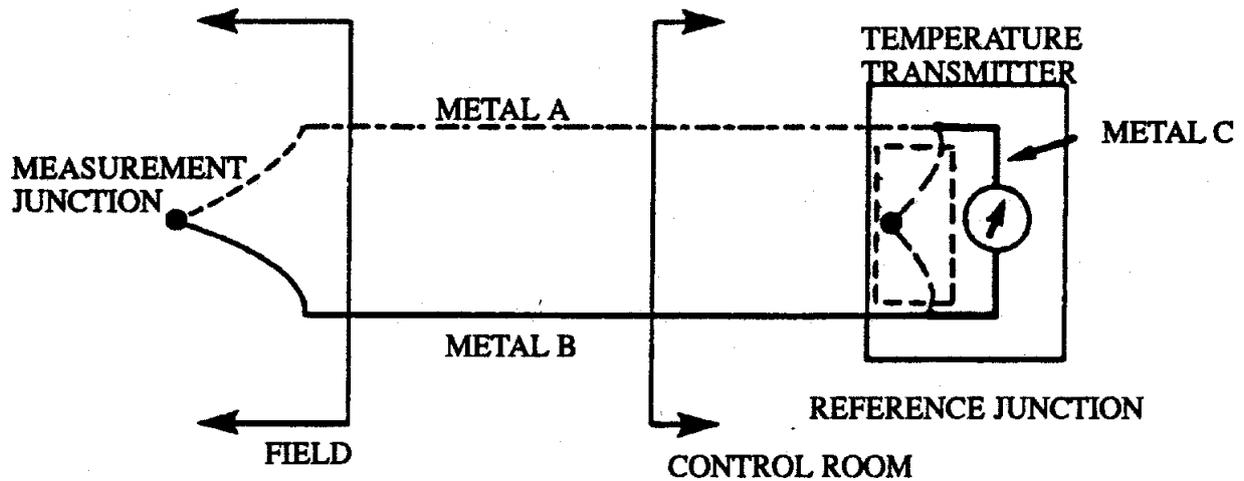

Figure 6: Thermocouple Circuit With Transmitter Acting As The Reference Junction.
- The transmitter becomes the reference junction as shown in Figure 6.